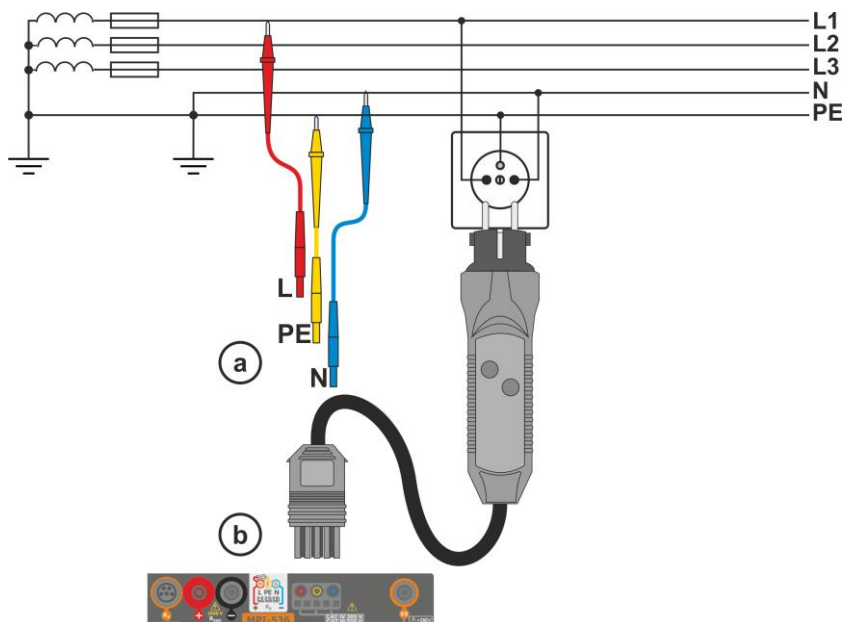
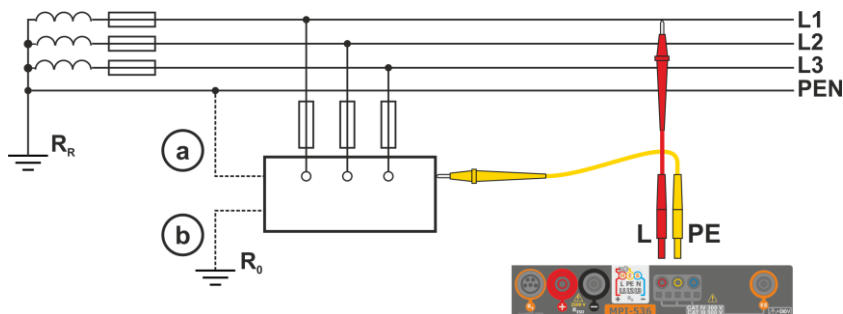

Fig. 4.1 Measurement in L-PE circuit
Fig. 4.2 Checking effectiveness of protection against electric shock of the meter housing in case of: (a) TN network or (b) TT network
- ① Connect test leads according to **Fig. 4.1** or **Fig. 4.2**.